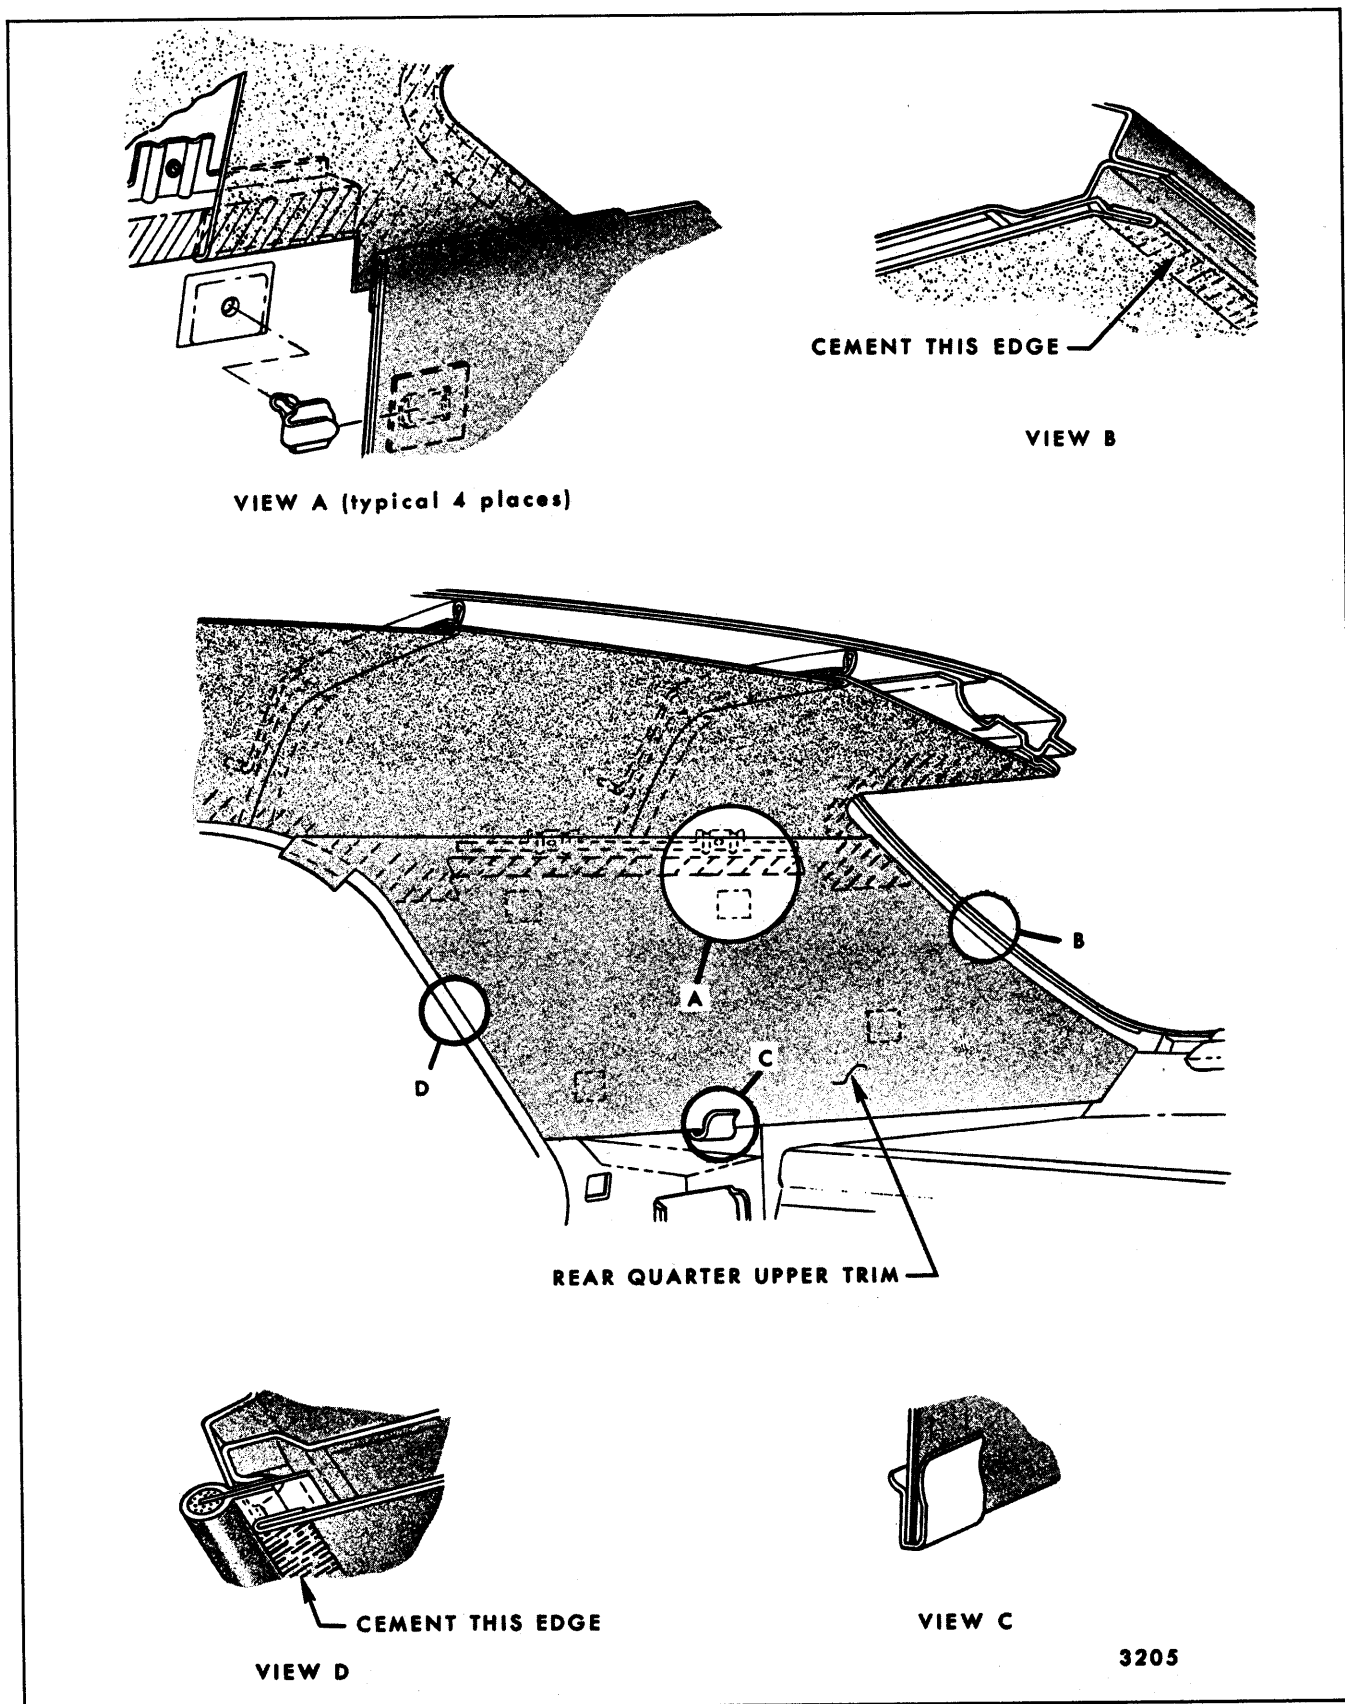

Fig. 14-37—Typical Rear Quarter Upper Trim Installation
3. If cemented, carefully break cement bond at front and/or rear edge of rear quarter upper trim (See Views "B and D", Fig. 14-37).
4. Detach fasteners from attaching holes, (View "A", Fig. 14-37), and remove rear quarter upper trim panel by pulling upper edge inboard and lifting upward.
5. To install, connect courtesy lamp wire to connector, position trim assembly by inserting lower edge into lower retainer clip (View "C", Fig. 14-37), and attach fasteners into at-